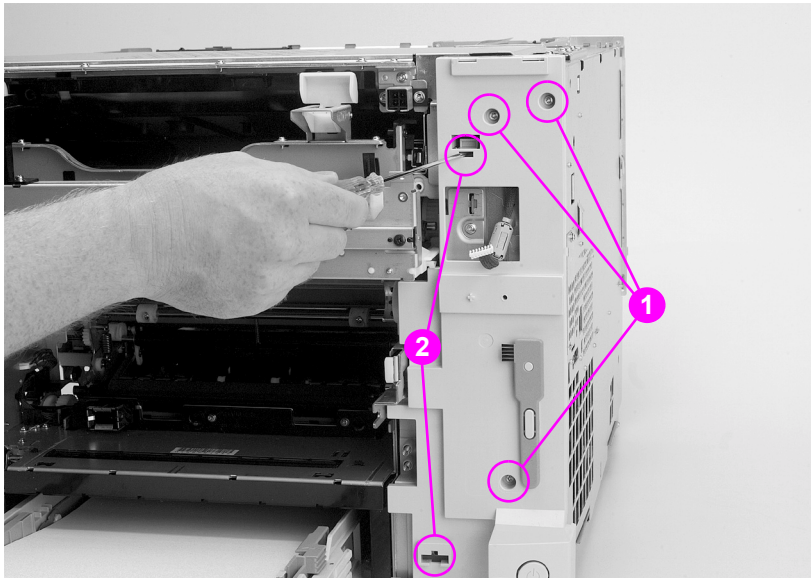

Figure 6-12 Front right cover removal and replacement
- 5 Remove the three screws as shown in callout 1, Figure 6-12.
- 6 Using a small flat-blade screwdriver, release the two plastic tabs (callout 2, Figure 6-12).